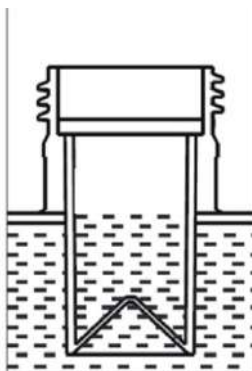

fig. 8
- Check the fuel level by visual inspection. See fig.8